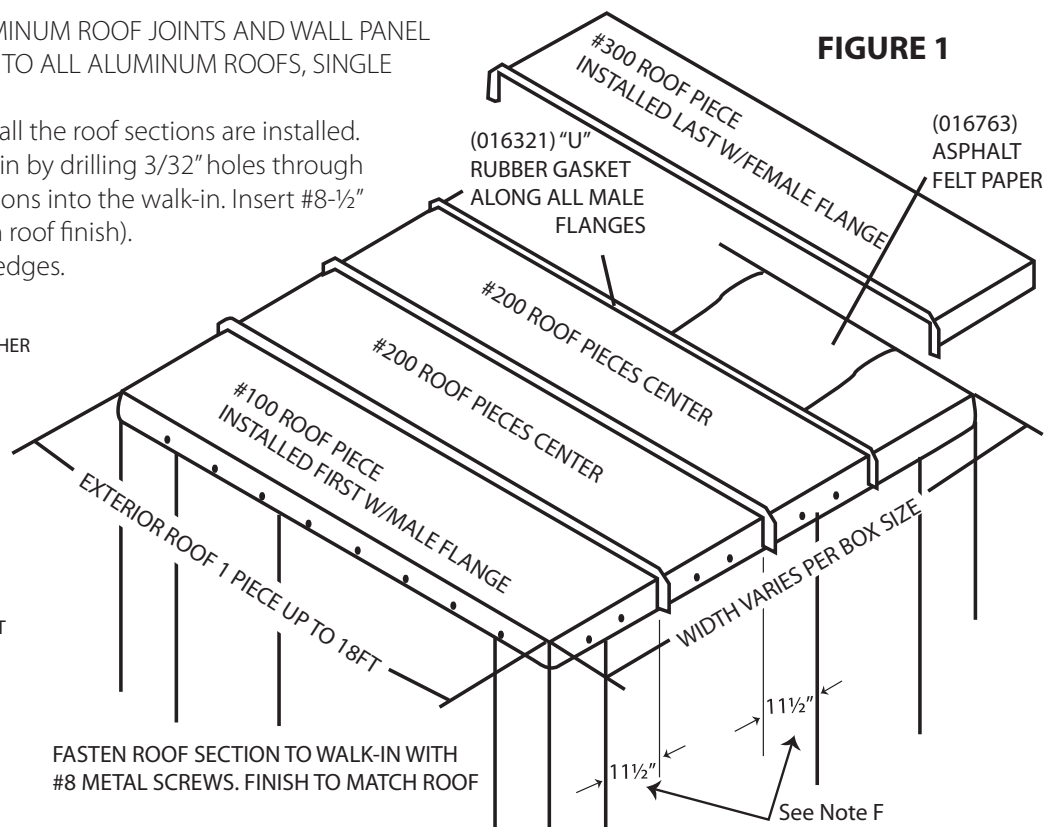

FIGURE 1
- B. Position the first aluminum roof section (the end section with upturned male flange. See Fig. 1).
The aluminum roof sections are fabricated to allow for minor variations in the length of the walk-in. If care is not taken, the last section of aluminum roof may be too big or too small. As additional aluminum roof sections are installed (and prior to installing the center hold down clips), pay close attention to where each section ends in relation to the wall panel joints. THE STANDING SEAMS SHOULD EITHER LINE UP WITH A WALL JOINT OR BE A MULTIPLE OF 11 1/2" FROM A WALL JOINT. The joint between aluminum roof pieces may be slightly compressed or pulled apart in order to hold the relationship between aluminum roof joints and wall joints. (See Figure 1)